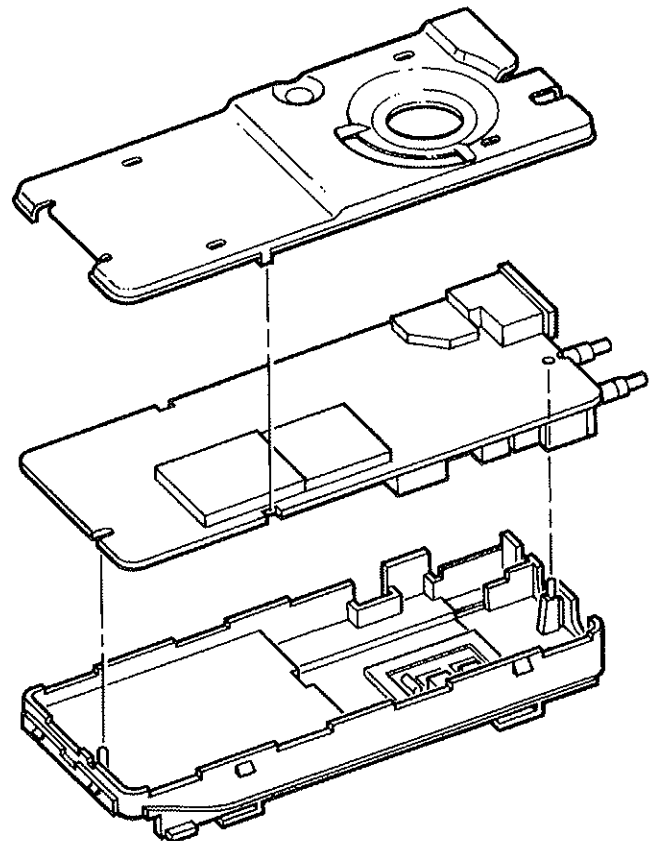

Figure 1-6. Align Pins
2. Insert main board into chassis using alignment pins as a guide (Figure 1-6).
3. Place front shield on main board using tabs as a guide (Figure 1-6).